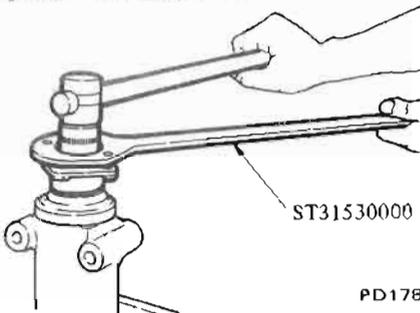

Fig. PD-8 Removing drive pinion nut
5. Loosen drive pinion nut, holding companion flange with Drive Pinion Flange Wrench ST31530000 and pull off companion flange using a standard puller. See Figure PD-8.